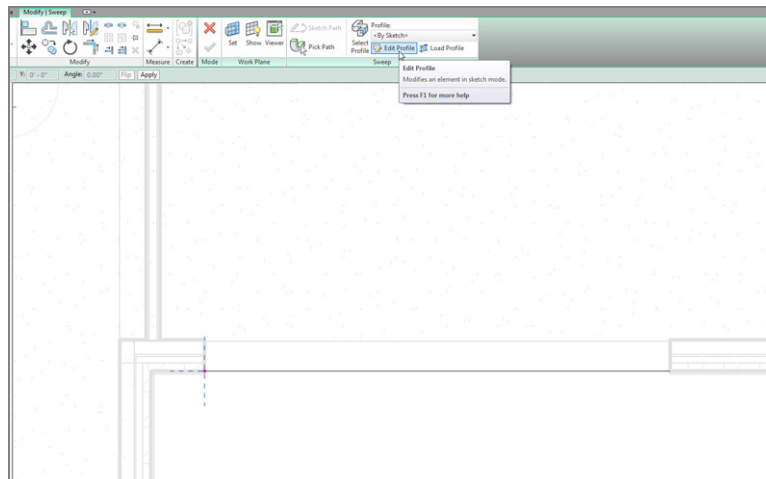

FIGURE 17.32: Sketching the profile
18. On the Sweep panel, click the Edit Profile button (see Figure 17.32).
19. Sketch a profile similar to that shown in Figure 17.32. Make it any size, shape, and complexity you wish.